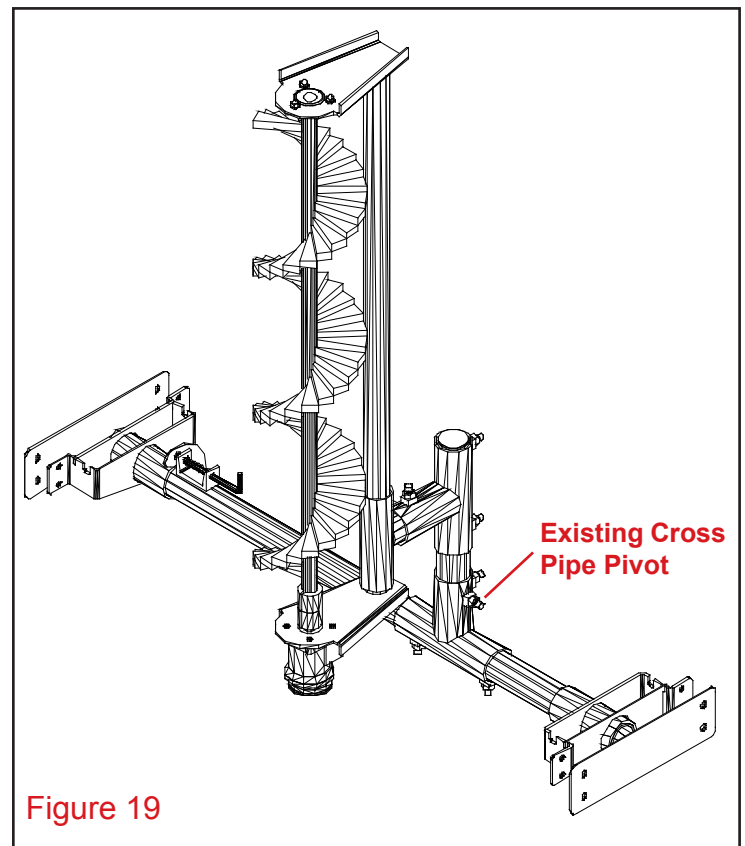

Figure 19
- 1) Loosen (2) set screws that connect the main auger assembly to the existing cross pipe pivot.
- 3) Rotate existing cross pipe pivot to vertical position. See Figure 19.